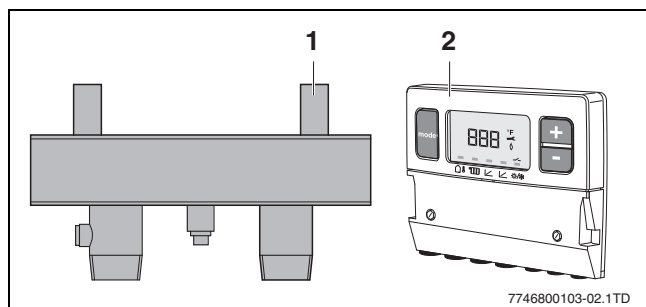

Fig. 5 Additional accessories
- Check that all items are included in the delivery (→ fig. 5).